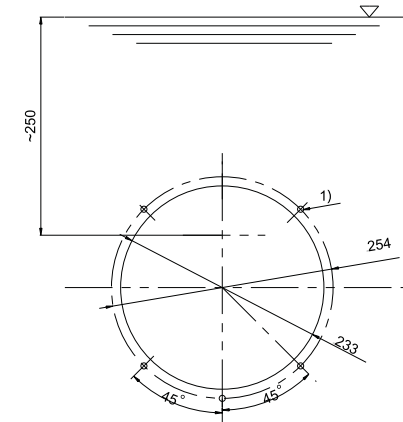

Figure 1
- a) Use 4 screws (M6*20) to fix the counter current jet plate to the pool wall hole. (Figure 1)